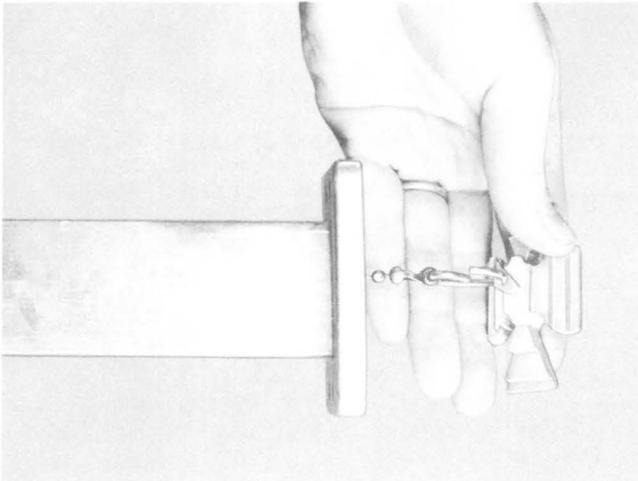
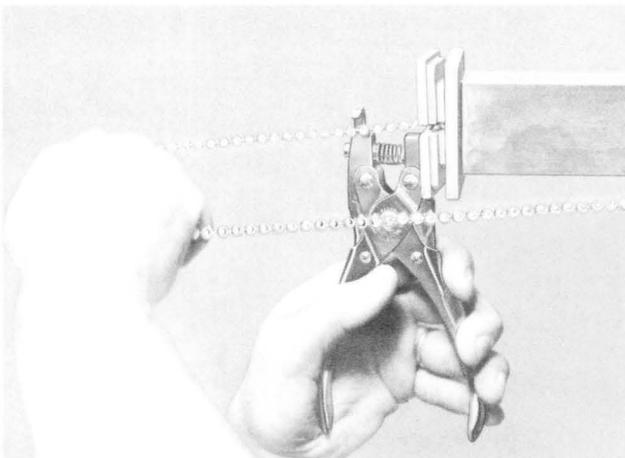

Fig. 12—Index Plate Attached to Bead Chain
Fig. 13—Engaging Bead Chain with Tensioner
4.13 Place the flange on the waveguide and fasten the index plate to the hook on the bead chain (Fig. 12). Seat the flange squarely on the end of the waveguide and seat the index plate in the flange. Pull the chain tight from the opposite end of the waveguide section and, while maintaining tension on the chain, place the plier tensioner on the factory flange, squeeze the plier handles together, and engage the bead chain (Fig. 13). Release the plier handles and check that the tension on the bead chain is sufficient to hold the field flange firmly in place.